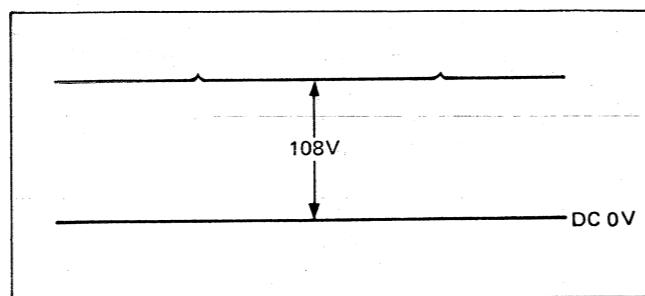

Fig. 19
5. Adjust Brightnes control (R5824) and R5544 (Max. Brightness) becomes 108V as shown in Fig. 19.